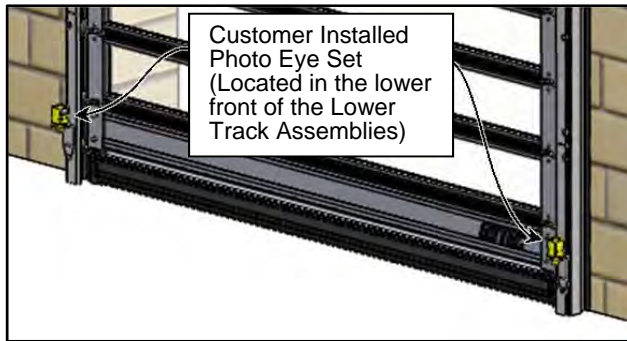
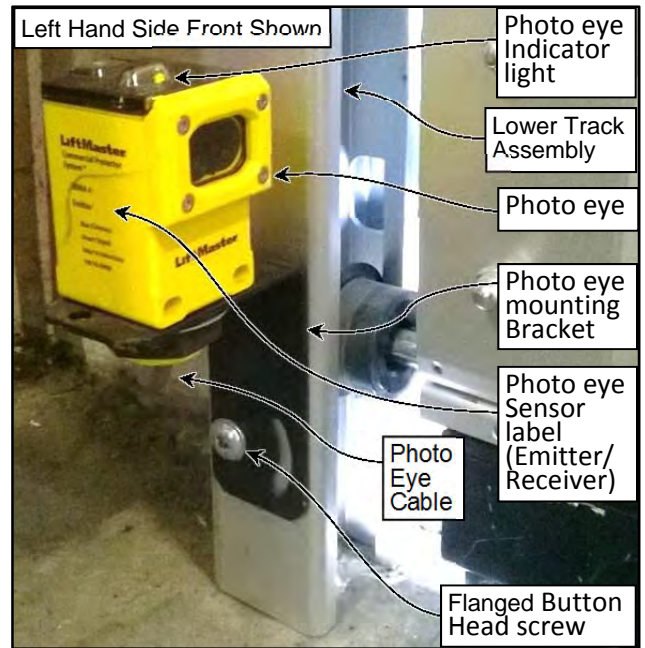

Figure 16
Figure 17
The transmitter/emitter and receiver modules are mounted in the lower center of the doors lower track assemblies. They are mounted in the field during the door's installation. (See Figure 16 & Figure 17)
The photo eye modules that make up the set of photo eyes each have one indicator light as shown. The photo eyes are receiving power & are aligned when the indicator lights are lit up & show a steady light. The emitter/transmitter module indicator light is green & the receiver module indicator light is yellow. If both module indicators are not lit up or are flashing, the eyes are either not aligned, broken, dirty/obstructed, or wired improperly. (See Figure 16 & Figure 17)
2. Place an object between the set of photo eyes to interrupt the beam of light between the photo eyes. Make sure the photo eye's indicator lights are blinking confirming that the beam has been interrupted. (See Figure 16 & Figure 17)